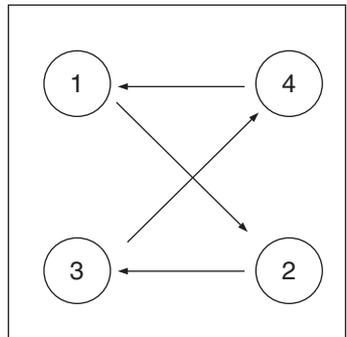

Fig. 12
- e. Tighten the 4-Bolts. Step by step to avoid damaging the seals (**Fig. 12**).